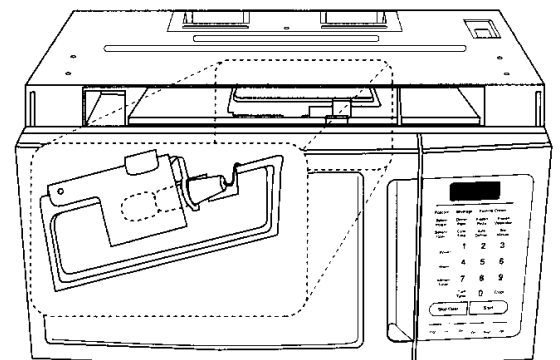

FIGURE 4
4. Remove oven light lens cover screw. (See Figure 4.)